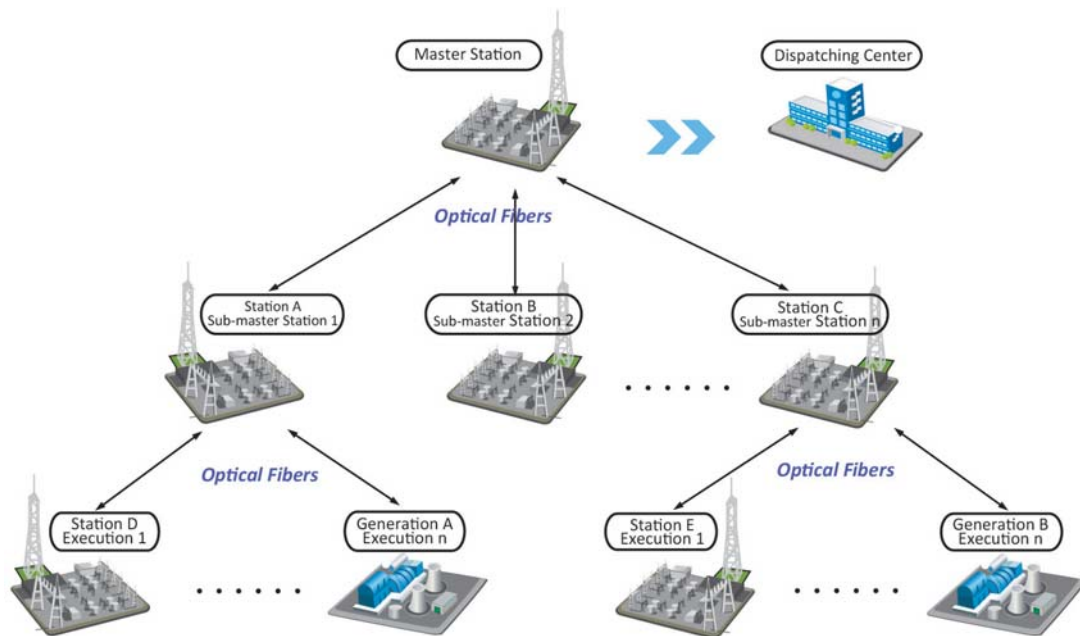

Figure 1 The typical structure of power stability control system
Figure 1 shows a power stability control system composed of master station, various sub-stations and execution stations. Up to 300 stations can be connected to a power stability control system. Each station has one Central Unit (CU) and several Bay Units (BUs), the combination of these units is known as the stability controller.